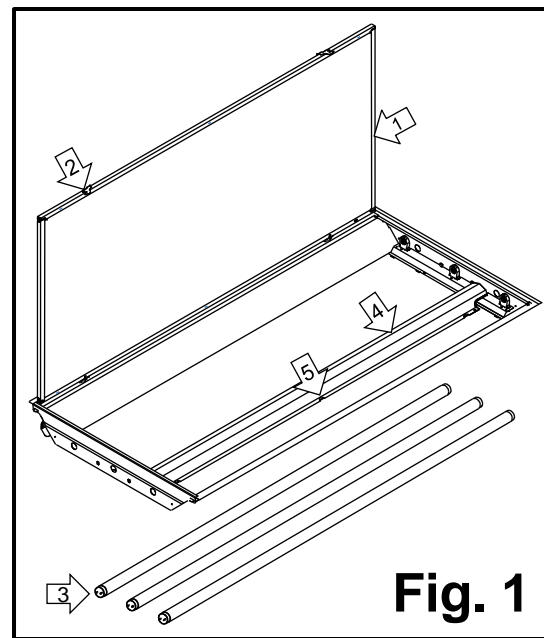

Fig. 1
2. Open the **door frame** (#1) by rotating the two **cam latches** (#2) [Fig. 1].
3. Remove the **lamps** (#3) from the packaging material and put them in a safe place [Fig. 1].
4. Remove the **wire cover** (#4) by squeezing and releasing it from **locking tabs** (#5) [Fig. 1].
11. From below ceiling, open the **door frame** (#1) and replace the **wire cover** (#4) by squeezing it into the **locking tabs** (#5) [Fig. 1].
13. Close the **door frame** (#1) using the two **cam latches** (#2) [Fig. 1].